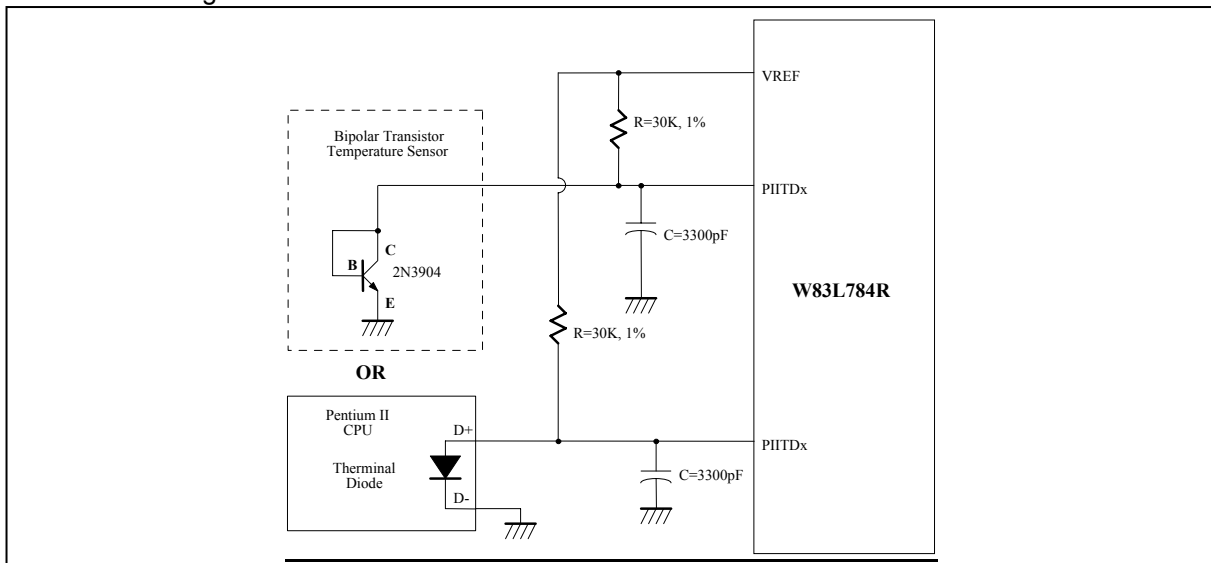

Figure 12
The W83L784R/G can alternate the thermistor to Pentium II™ (Deschutes) thermal diode interface or transistor 2N3904 and the circuit connection is shown as Figure 12. The pin of Pentium II™ D- is connected to power supply ground (GND) and the pin D+ is connected to pin PIITx in the W83L784R/G. The resistor R=30K ohms should be connected to VREF to supply the diode bias current and the bypass capacitor C=3300pF should be added to filter the high frequency noise. The transistor 2N3904 should be connected to a form with a diode, that is, the Base (B) and Collector (C) in the 2N3904 should be tied together to act as a thermal diode.